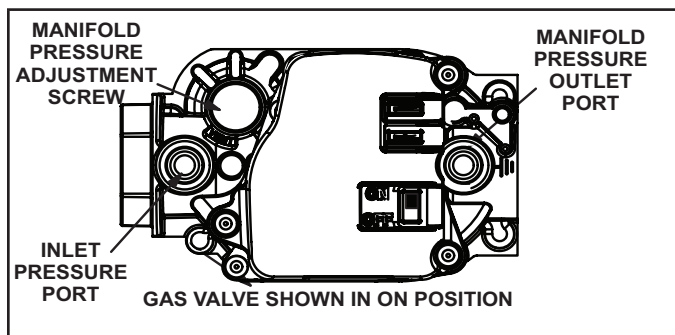

Figure 32
Gas Valve Operation (Figure 32)
- 6 - Move switch on gas valve to **OFF**. Do not force. See figure 32.
- 8 - Move switch on gas valve to ON. Do not force. See figure 32.